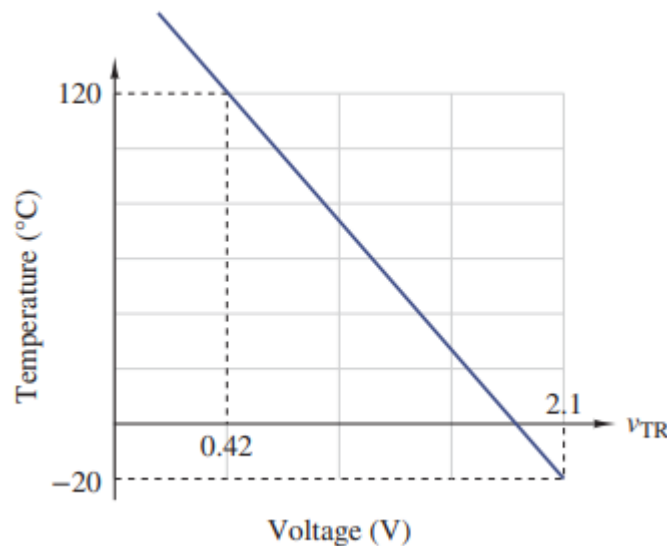

Figure 1
- Suppose we have an available temperature transducer with the characteristics shown in Figure 1.